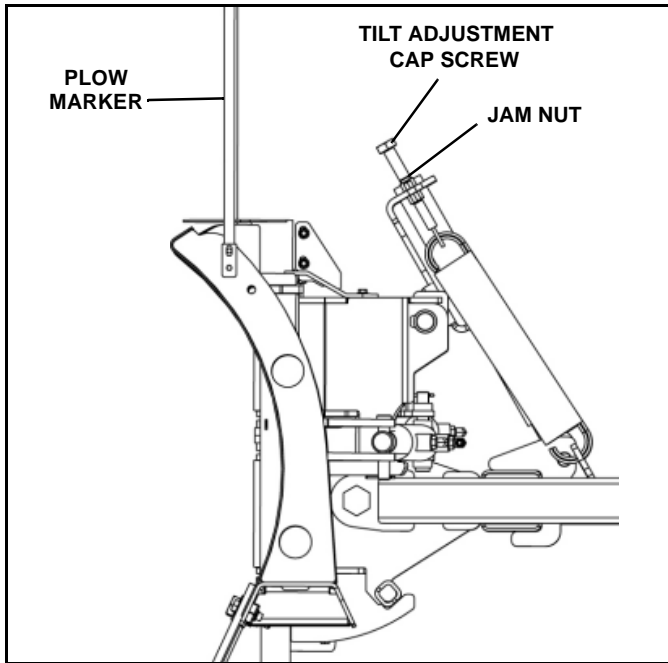

Figure 1-20
2. Loosen jam nut on the tilt adjustment cap screw located in the center section of the plow trip mechanism. (See Figure 1-20).